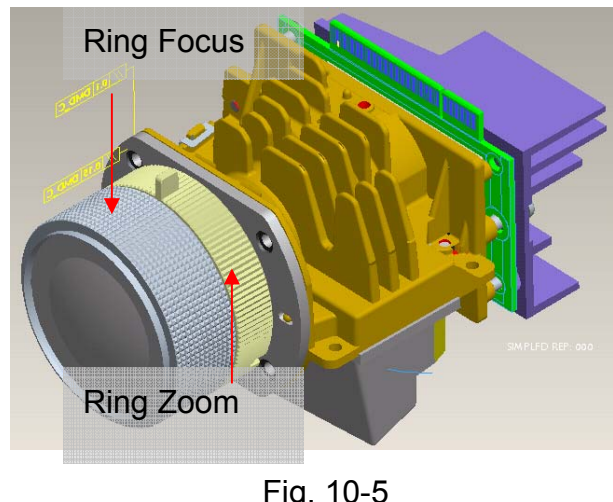

Fig. 10-5
10.5 Assemble Ring Zoom and fasten screw then assembly Ring Focus(Fig. 10-5)